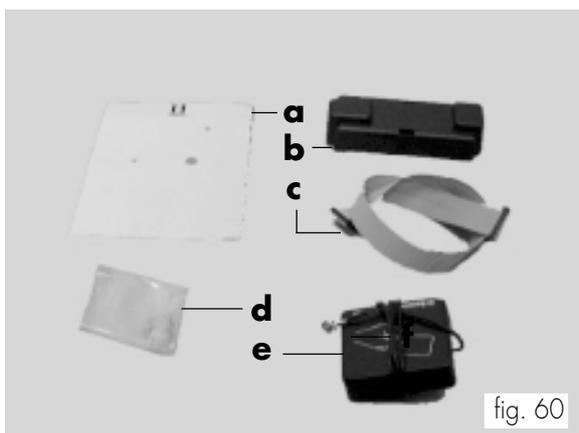

fig. 60
Assembly kit (fig. 60)
- Place the adhesive sheet (ref. a, fig. 60) on the lower tile (fig. 61). Drill according to the diagram on sheet using a 3 dia. point for the two small holes and a 10 dia. point for the other hole.
- Fasten the universal module by means of the 4 screws and spacers (ref. d, fig. 60) on the door (fig. 66).
- Assemble the guard (ref. b, fig. 60) on the universal module (fig. 69).
- Connect the universal module to the I/O card (fig. 67) by means of the flat cable (ref. c, fig. 60).